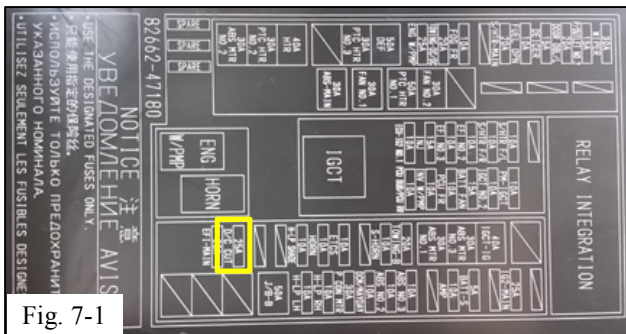

Fig. 7-1
- (a) Temporarily reconnect the negative battery terminal. If required, install the short pin (Fig. 7-1).